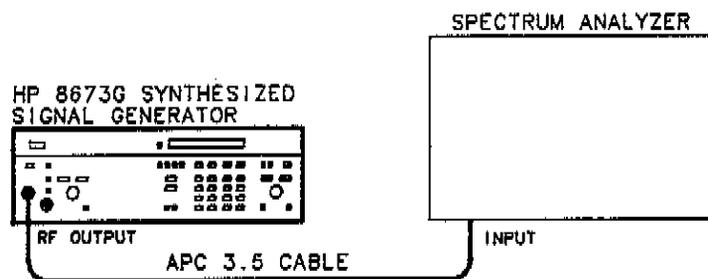

Figure 4-13. Non-harmonically Related Spurious Test Setup
1. Connect the equipment as shown in Figure 4-13.